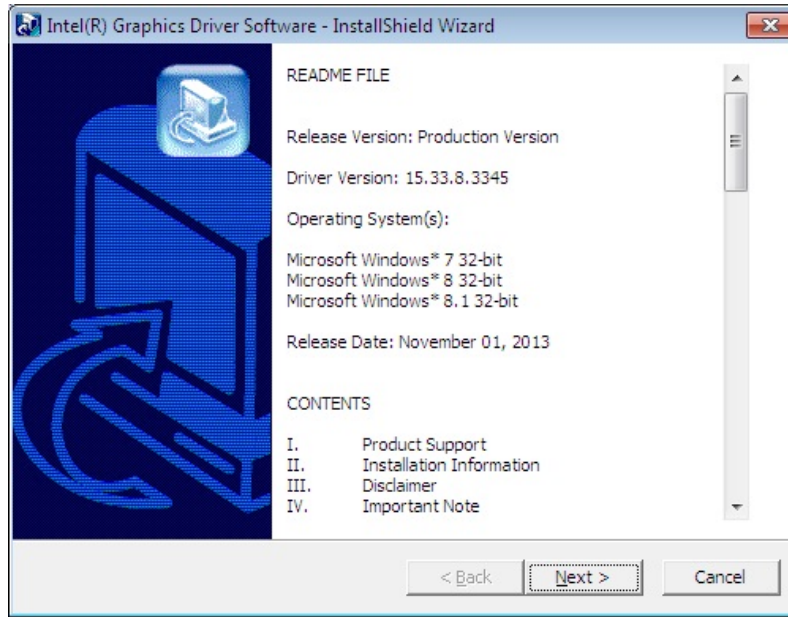

Figure 6-7: VGA Driver README FILE
- Step 4:** The **README FILE** screen in **Figure 6-7** appears. Click **Next** to continue.